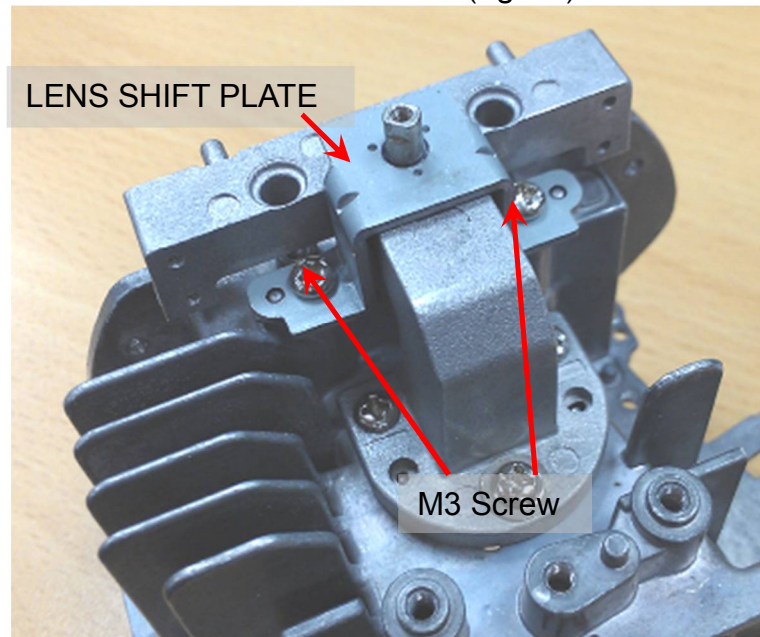

Fig. 6-7
G. Assemble “LENS SHIFT PLATE” and screw Well. (Fig. 6-7)